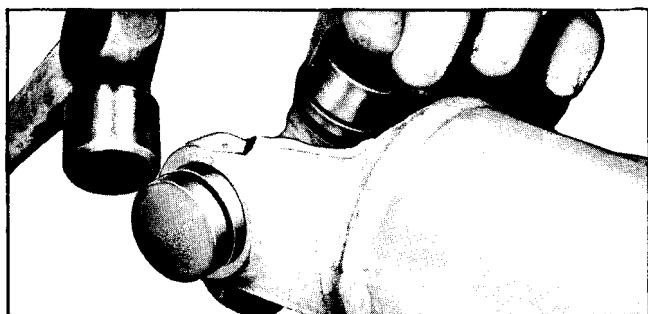

Fig. 4E-11 Tapping Out Bearing
2. Using piece of pipe or similar tool with diameter sufficiently large (slightly larger than 1 1/8") to encircle the bearing shell, apply force on propeller shaft fixed yoke until downward movement of propeller shaft fixed yoke and stationary position of journal forces the bearing assembly almost completely out top of yoke (Fig. 4E-10). This will shear nylon retainers which hold bearings in place).